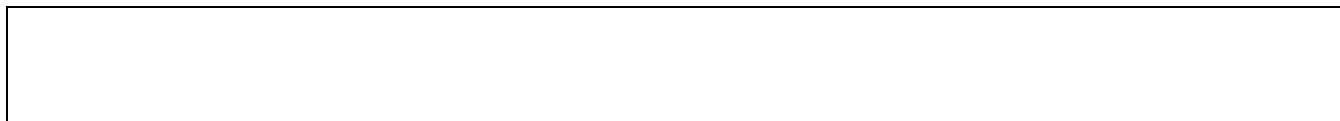

Figure 9. VDD vs. fosc
This circuit generates some signals to be used for displaying LCD. The display clock, CL, generated by oscillation clock, generates the clock for the line counter and the signal for the display data latch. The line address of on-chip RAM is generated in synchronization with the display clock (CL) and the 132-bit display data is latched by the display data latch circuit in synchronization with the display clock. The display data, which is read to the LCD driver, is completely independent of the access to the display data RAM from the microprocessor. The display clock generates an LCD AC signal (M) which enables the LCD driver to make a AC drive waveform, and also generates an internal common timing signal and start signal to the common driver. Driving 2-frame AC driver waveform and internal timing signal are shown in figure 9.